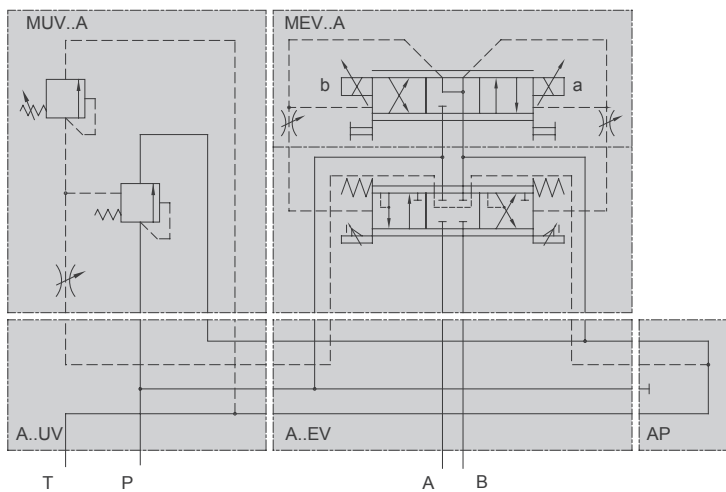
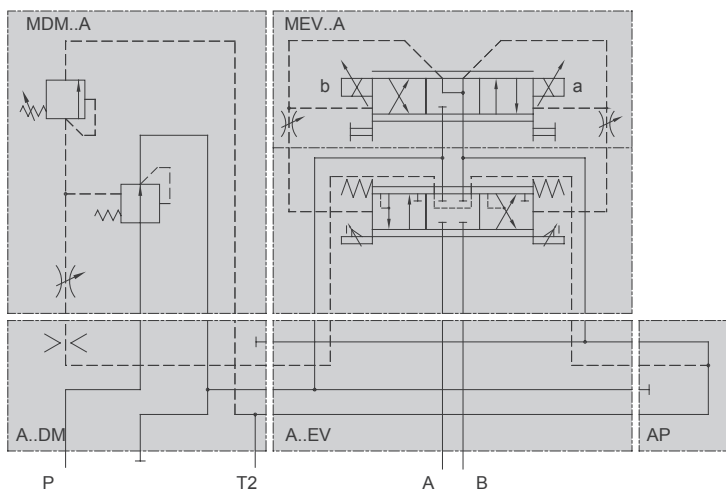

Fig. 17 (detailed)
Fig. 18 (detailed)
- 1. MUV or MDM : pressure relief (fig 17) or pressure reducing valve (fig 18)).